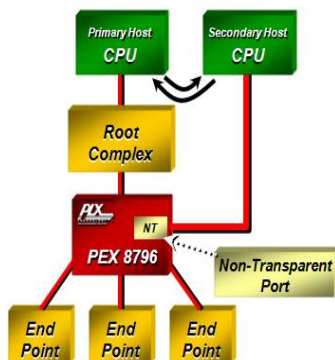

Figure 3: Non-Transparent Port
In Single-Host mode, the PEX8796 supports a **Non-Transparent (NT) Port**, which enables the implementation of **dual-host systems** for redundancy and host failover capability. The NT port allows systems to isolate host memory domains by presenting the processor subsystem as an endpoint rather than another memory system. Base address registers are used to translate addresses; doorbell registers are used to send interrupts between the address domains; and scratchpad registers (accessible by both CPUs) allow inter-processor communication (see Figure 3).